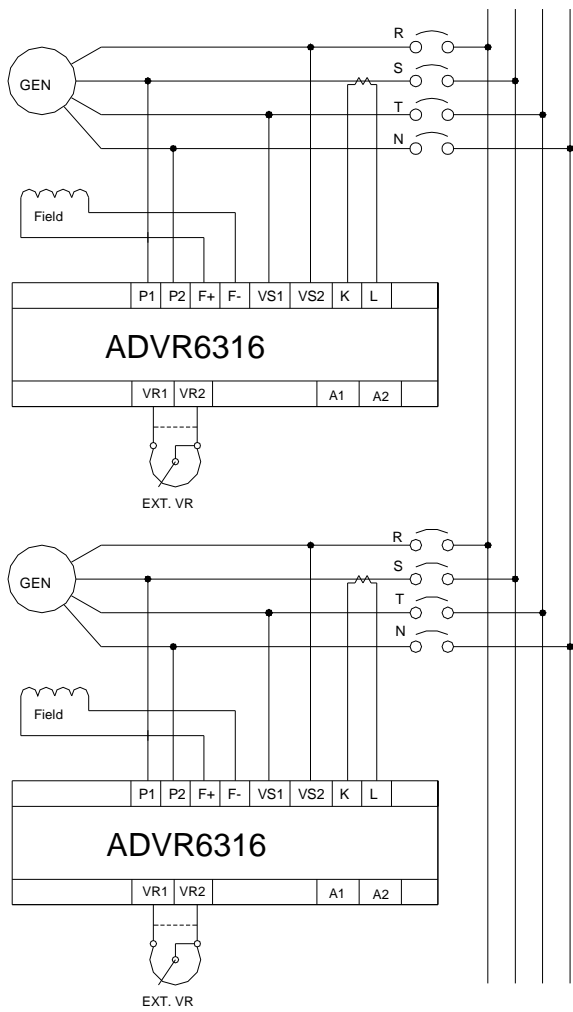

Figure 2 Paralleling Connection
1. Installation Notice: (Refer to Figure 2 and 4).